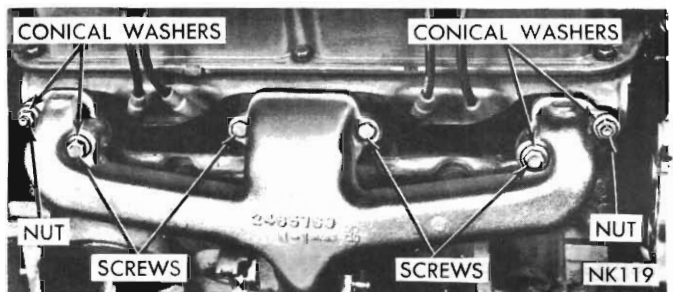

Fig. 4 - Exhaust manifold (8 cyl.)
(1) Position the two out-board arms of the manifolds on the two studs on cylinder heads, using new gaskets. Install the conical washers and nuts on the studs (Fig. 4).
(2) Install the two screws and the conical washers at the inner ends of the out-board arms of the manifold. Install the two screws without washers on the centre arm of the manifold (Fig. 4). Tighten the screws and nuts to 15 lbs. ft., starting at the centre arm and working outward.
(3) Assemble the exhaust pipe to the manifold and secure with bolts, nuts and washers. Tighten the nuts to 24 lbs. ft.